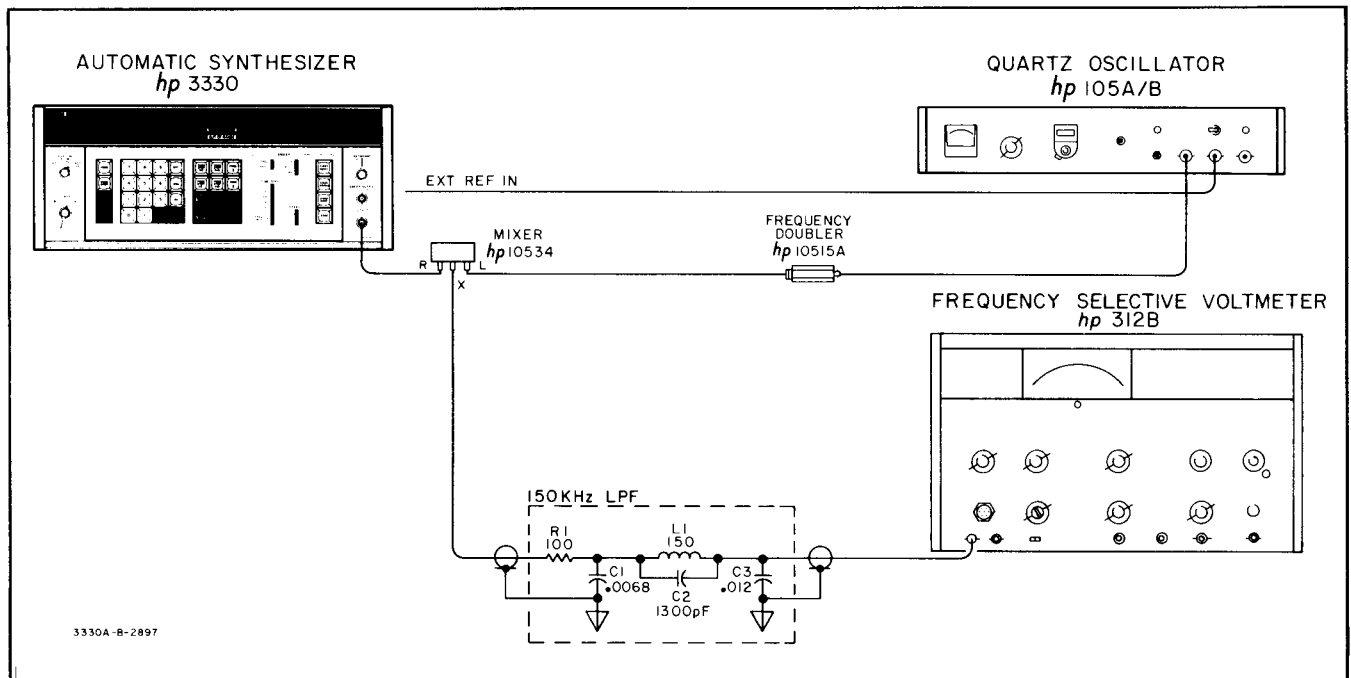

Figure 5-4. Spurious.
e. Connect the equipment as shown in Figure 5-4 (insure the 5 MHz oscillator is at 5,000,000.0 Hz).